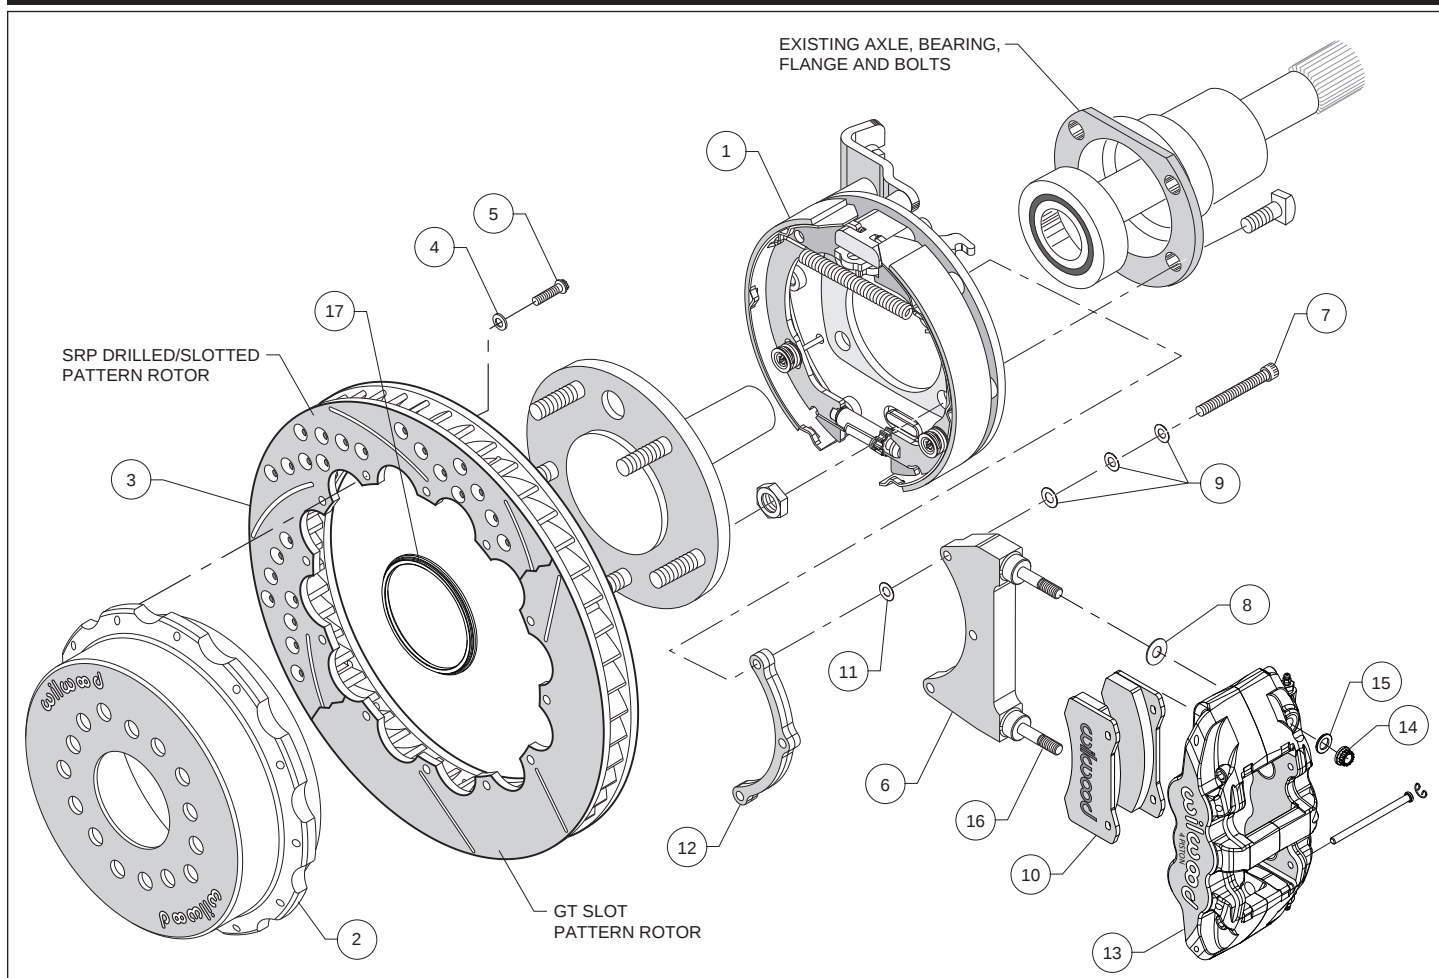

Figure 1. Typical Installation Configuration
- Slide the rotor registration adapter (17) onto the axle register on the axle flange with the smaller O.D. facing toward the rotor/hat (2). Align the correct hole pattern in the hat with the stud pattern on the axle flange. **NOTE:** Some OEM and aftermarket axles come with stud sizes larger than 0.50" diameter. Verify stud size and have a qualified machine shop drill the hats to the correct size, if necessary. Slide the hat/rotor assembly (2 and 3) over the wheel studs covering the bracket kit assembly (1) and against the axle flange face. Check to be sure the hat seats squarely against the hub. Install three lug nuts (finger tighten) to keep the rotor/hat assembly in place while continuing with the installation.
- **NOTE:** Please reference the caution statement at the beginning of the assembly instructions. The caliper mounting bracket assembly (6) should be installed first with clean, dry threads on the mounting bolts (7). Install the bracket from the rear side of the bracket kit assembly (1) by sliding bolt (7) through three flat washers (9), bracket (6), shim washer (11) and finally through the spacer (12), see Figure 1. **NOTE:** End of bolt should not exceed inside face of insert. The bracket must tighten squarely against the back side of the bracket kit assembly (1). Inspect for interference from casting irregularities, machining ridges, burrs, etc. Use one thin shim (11) between the bracket (6) and spacer (12) during initial trial fitting.
- Lubricate caliper mounting studs and nuts with lightweight oil. Install one shim (8) over each pre-installed stud (16) on the radial mount bracket (6). Slide the caliper (13) in place over the studs and rotor, then install the washer (15) and lock nut (14) to hold the caliper in place. The caliper bleed screws should be pointing up. Snug the lock nuts (14) and check that the rotor (3) is centered in the caliper (13). Add or subtract .015" shims (11) as necessary between the caliper mounting bracket (6) and the spacer (12) to center the caliper (13).
- Remove the two pad retaining pins from the caliper (13) by carefully popping out the pin retaining clips and sliding out the pins. Insert the brake pads (10) into the caliper from the bottom, Figure 1. With the friction material facing the rotor, secure the brake pads in place with the pad retaining pins and clips. Reinstall the caliper onto the caliper mounting bracket and temporarily tighten the lock nuts. Check that the top of the brake pad is flush with the outside diameter of the rotor. If not, adjust by adding or subtracting shims (8) between the caliper and the bracket.
- Adjust the parking brake shoes outward (using a drum shoe adjustment tool available at your local auto parts store) while spinning the hat (2) until a slight drag is felt against the hat/drum. Remove the lug nuts that were holding the hat/rotor in place. Install the wheel and lug nuts. Check to see that the wheel rotates freely without interference.
- Once all clearances have been checked, remove the wheel, caliper, hat/rotor from the bracket kit assembly (1). Secure the caliper mounting bracket (6) to the bracket kit assembly (1) using red Loctite® 271. Torque bolts (7) to 180 in-lb. Reinstall the hat/rotor assembly and again use lug nuts to hold it in place. Reinstall the caliper, torque the caliper nuts (14) to 47 ft-lb.
- **NOTE:** Clevis and cable kits which attach to the parking brake assembly are not included in the Wilwood parking brake kit. Wilwood offers a generic style parking brake cable kit, P/N 330-9371 for this application which can be ordered separately from your local Wilwood dealer or by calling Wilwood customer service at (805) 388-1188.